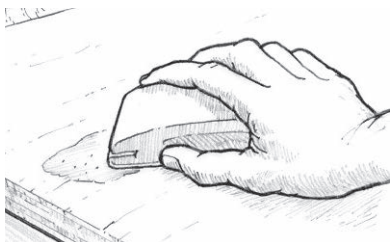

Figure 23 Sand cured fairing compound to desired contour.
6. Wash and sand the fairing material to blend with the surrounding contour (Figure 23). Begin with 60-grit sandpaper if you have a lot of fairing material to remove. Use 80-grit paper on the appropriate sanding block when you are close to the final contour. CAUTION! Don't forget your dust mask. Remove the sanding dust and fill any remaining voids following the same procedure.